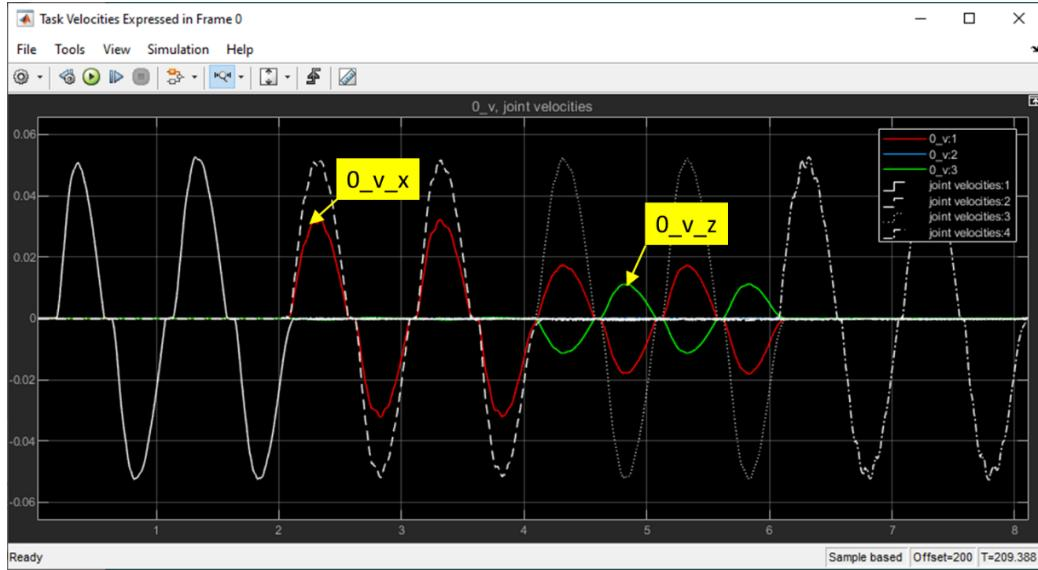

Figure 2 – Sample result for position A showing loss of velocity along the Y axis when expressed in frame 0
4. Open the scopes labelled **Task Velocities Expressed in Frame 0** and **Task Velocities Expressed in Frame 4**. With the arm in position A, use the manual switch placed before the Disturbance subsystem to move the joints one by one. The scopes will display the applied velocity disturbances, as well as the X, Y, Z components of the end-effector's velocity when expressed in frames 0 and 4. Sample result shown in Figure 2 indicates that when all four of the joints have been actuated, the end-effector only moves along the X (red) and Z (green) axes when expressed in frame 0. In other words, movement along the Y axis is lost. Use Table 1 to record your results.